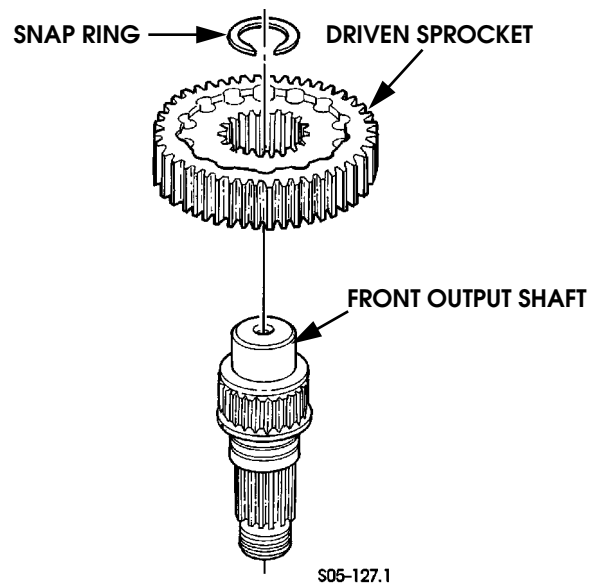

Figure 5-158: Front Output Shaft and Sprocket Assembly
24. Assemble driven sprocket and front output shaft. Use new snap ring if old one is worn or distorted (Figure 5-158).